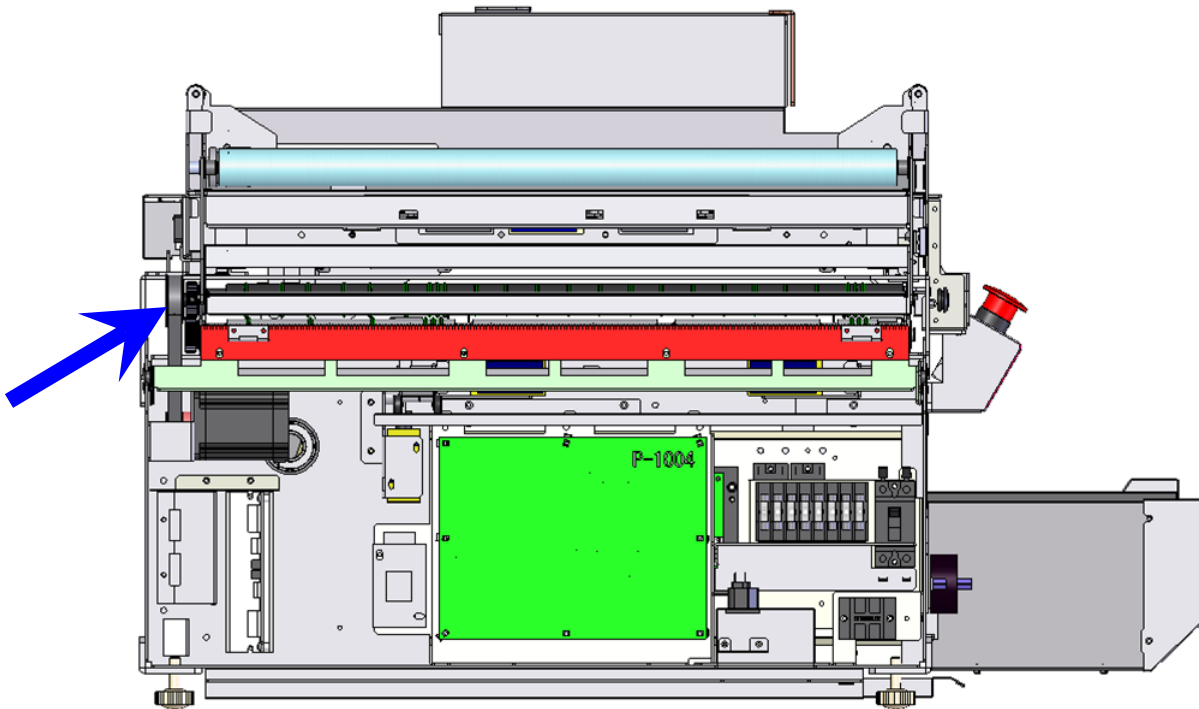

Figure 13.
18. Loosen two screws securing the Film Feeder Drive motor bracket and slip the drive belt off the Polished Roller Film Feed drive gear as indicated by the blue arrow. See Figure 13.